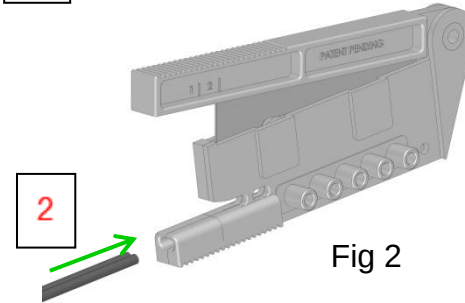

Fig 2
1. If using a duplex cable, it can be split as shown in Figure 2. Insert cable into slot and push down lever, (Figure 2 & 3) remove and separate the zipcord approximately 2".